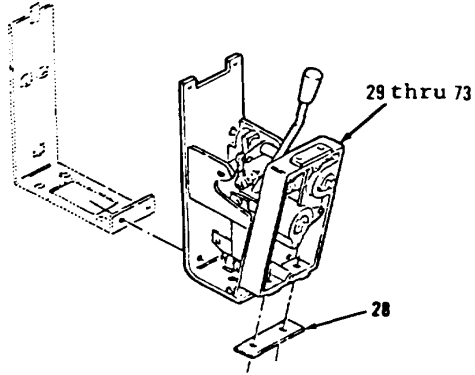
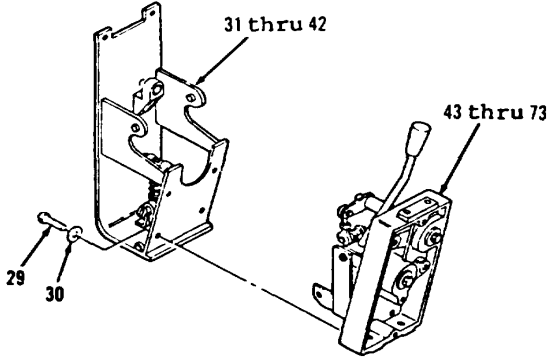
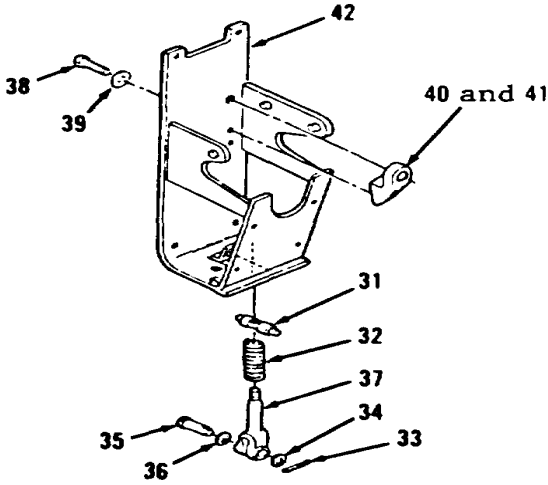
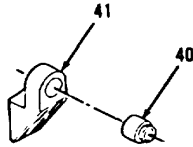

Figure 5-4.
Figure 5-5.
Figure 5-6.
Figure 5-7.
- 12. Remove items 29 thru 73 as an assembly (Figure 5-4) from vehicle.
- 13. Remove pad (28).
- 14. Remove four bolts (29) and washers (30, Figure 5-5).
- 15. Separate housing items 31 thru 42 as an assembly from support items 43 thru 73 as an assembly.
- 16. Remove pin (31) and spring (32) from support (42, Figure 5-6).
- 17. Remove cotter pin (33), washer (34), pin (35), washer (36) and rod (37). Discard cotter pin (33).
- 18. Remove two bolts (38), washers (39) and items 40 and 41 as an assembly from support (42).
- 19. Remove bearing (40) from bracket (41, Figure 5-7).